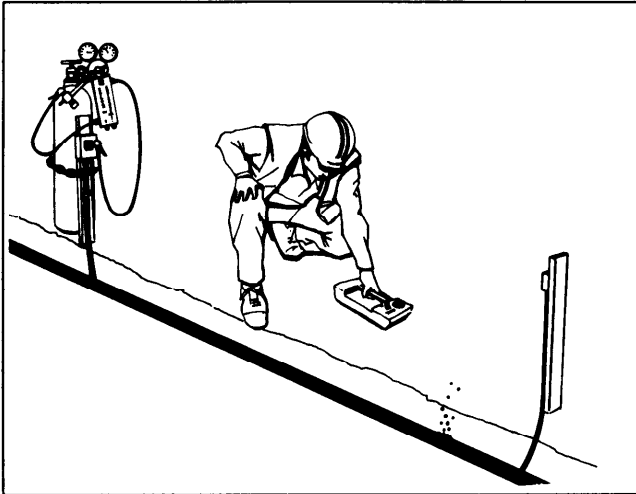

Fig. 4 - Charging Cables
5.21 Buried cables are charged with helium at the valve points closest to the leak location on the air sourceside of the leak (central office dryers, pole mounted dryers or nitrogen tanks) (Fig. 4)
5.23 Helium will appear directly over the path of the cable at the point the cable is leaking. It is important to carefully mark the path of the cable before using the Model 1820A Helium Detector. Precise cable path location can be accomplished while the cable is being heliumized (Fig. 4).